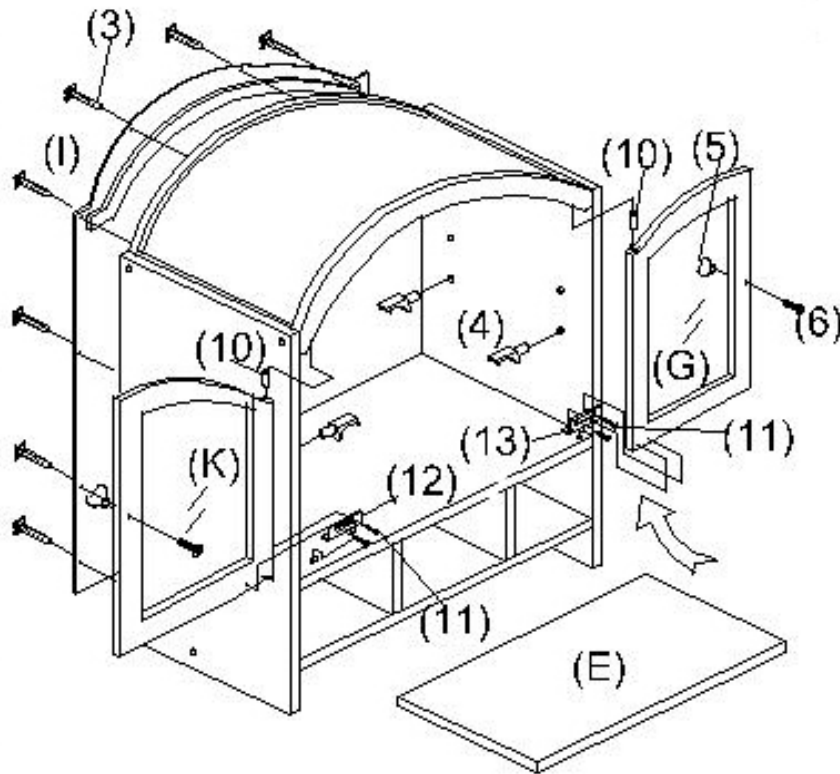

FIGURE 3
5. ATTACH BACK PANEL (I) INTO SLOTS ON PARTS (A, B, C, J). INSERT PAN HEAD WOOD SCREWS ($\text{\O}2.6 \times 10\text{mm}$) (3) THROUGH PREDRILLED HOLES ON BACK PANEL (I) AND TIGHTEN INTO REAR EDGES OF PARTS (A, B, C, J). INSERT METAL HINGES (10) INTO TOP EDGES OF LEFT AND RIGHT DOORS (K, G) AND FIT INTO CORRESPONDING HOLES ON UNDERSIDE OF TOP PANEL (A). FIT LEFT AND RIGHT METAL HINGES (12, 13) INTO PREDRILLED HOLES ON UPSIDE OF UPPER FIXED SHELF (D). INSERT SMALL FLAT HEAD WOOD SCREWS ($\text{\O}3 \times 10\text{mm}$) (11) THROUGH LEFT AND RIGHT METAL HINGES (12, 13) AND TIGHTEN INTO PREDRILLED HOLES ON LEFT AND RIGHT DOORS (K, G). (AS SHOWN IN FIGURE 3)
6. INSERT SMALL MACHINE SCREWS ($\text{\O}5/32'' \times 5/8''$) (6) THROUGH PREDRILLED HOLES ON BACK OF LEFT AND RIGHT DOORS (K, G) AND TIGHTEN INTO METAL KNOBS (5). FIT SHELF SUPPORTS (4) INTO PREDRILLED HOLES ON INSIDE OF LEFT AND RIGHT SIDE PANELS (B, C). PUT ADJUSTABLE SHELF (E) ON SHELF SUPPORTS (4). (AS SHOWN IN FIGURE 3)